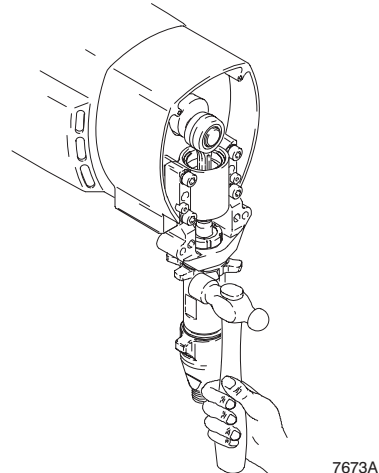

Fig. 22 7673A
5. Fig. 22. Loosen locknut by hitting firmly with a 20 oz (maximum) hammer. Unscrew pump.